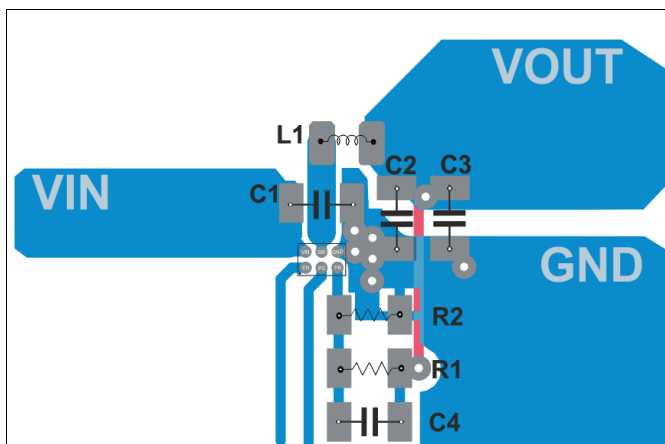
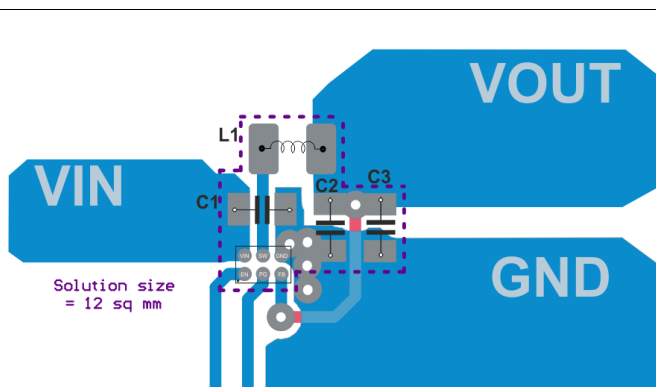

图 26. PCB Layout of Adjustable Output Voltage Application
图 27. PCB Layout of Fixed Output Voltage Application
The printed-circuit-board (PCB) layout is an important step to maintain the high performance of the device. See 图 26 and 图 27 for the recommended PCB layout.
- Refer to 图 26 and 图 27 for an example of component placement, routing and thermal design.